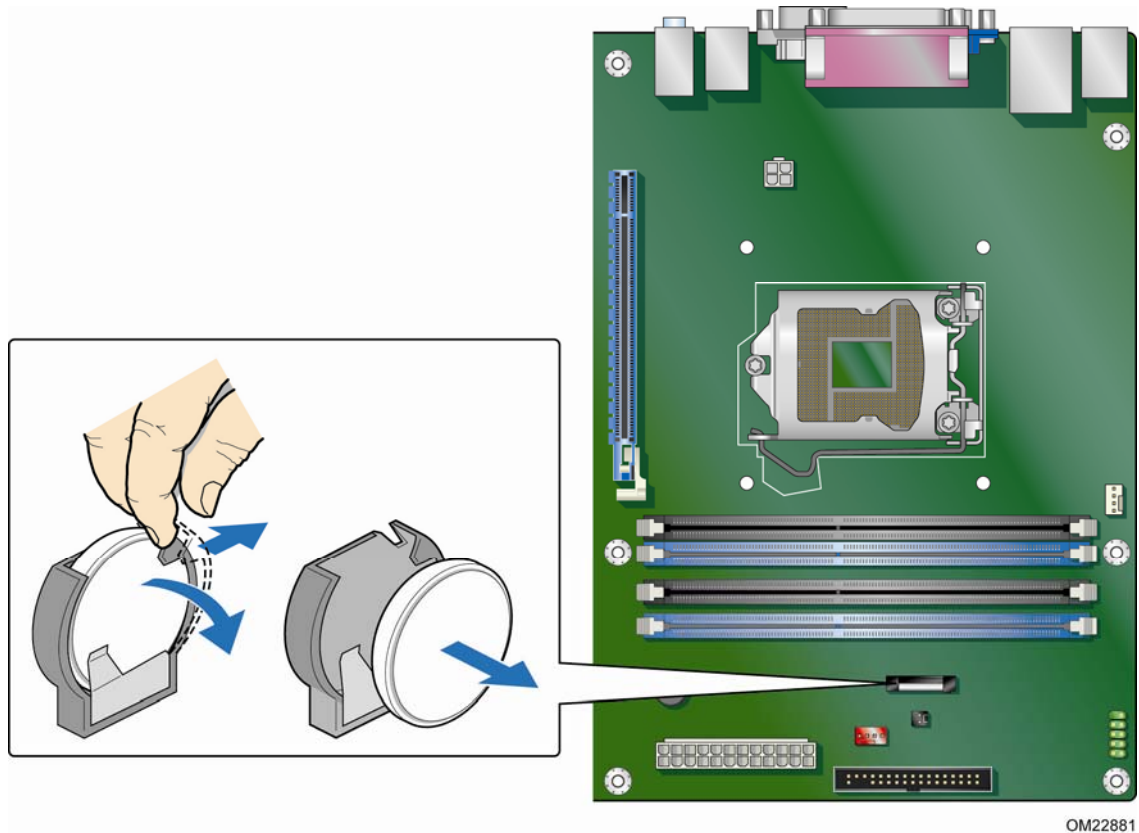

Figure 27. Removing the Battery
When the voltage drops below a certain level, the BIOS Setup program settings stored in CMOS RAM (for example, the date and time) might not be accurate. Replace the battery with an equivalent one. Figure 27 on page 66 shows the location of the battery.
4. Locate the battery on the board (see Figure 27).
5. Disengage the tab on the battery holder as shown in Figure 27 and remove the battery. Note the orientation of the "+" and "-" on the battery.